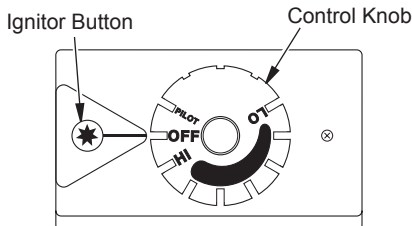

Figure 41 - Control Knob In The OFF Position
4. Wait five (5) minutes to clear out any gas. Then smell for gas, including near the floor. If you smell gas, STOP! Follow "B" in the safety information in column 1. If you don't smell gas, go to the next step.
5. Turn control knob counterclockwise  to the PILOT position. Press in control knob for five (5) seconds (see Figure 41).